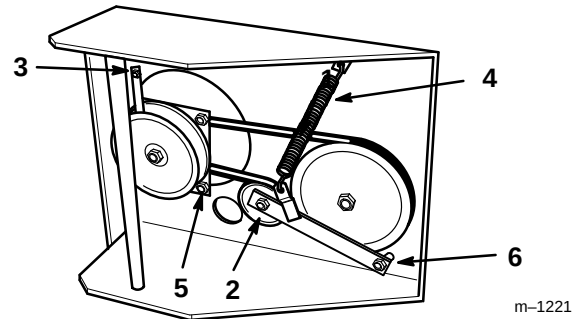

Figure 34
8. Torque pivot bolt to 35-40 ft. lb. (47-54 N.m). Install tension spring between idler arm and frame bracket (Fig. 34).
4. Remove left front engine mounting bolt securing clutch retainer to frame (Fig. 34). Unhook retainer from clutch and remove retainer.
5. Unhook tension spring from side of frame (Fig. 34).